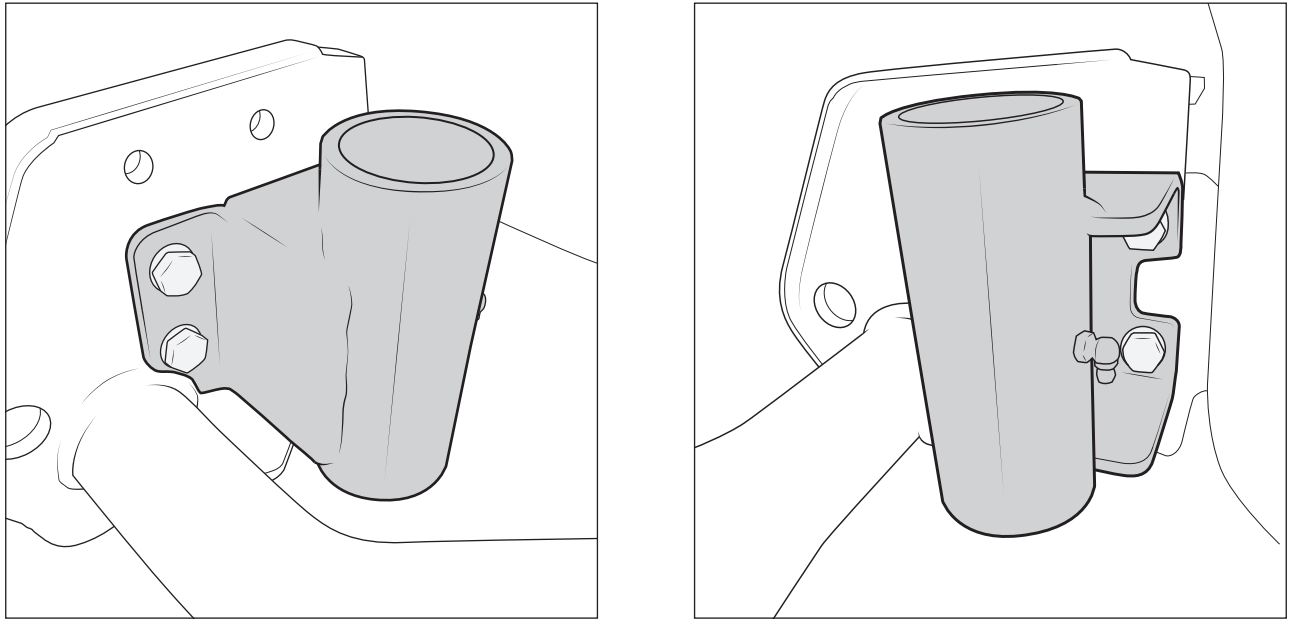

Figure 13
5. Install spindle mount to the right hand corner bracket using four supplied M10x30 hex bolts and washers. Hand snug bolts but do not fully torque yet (fig. 13).